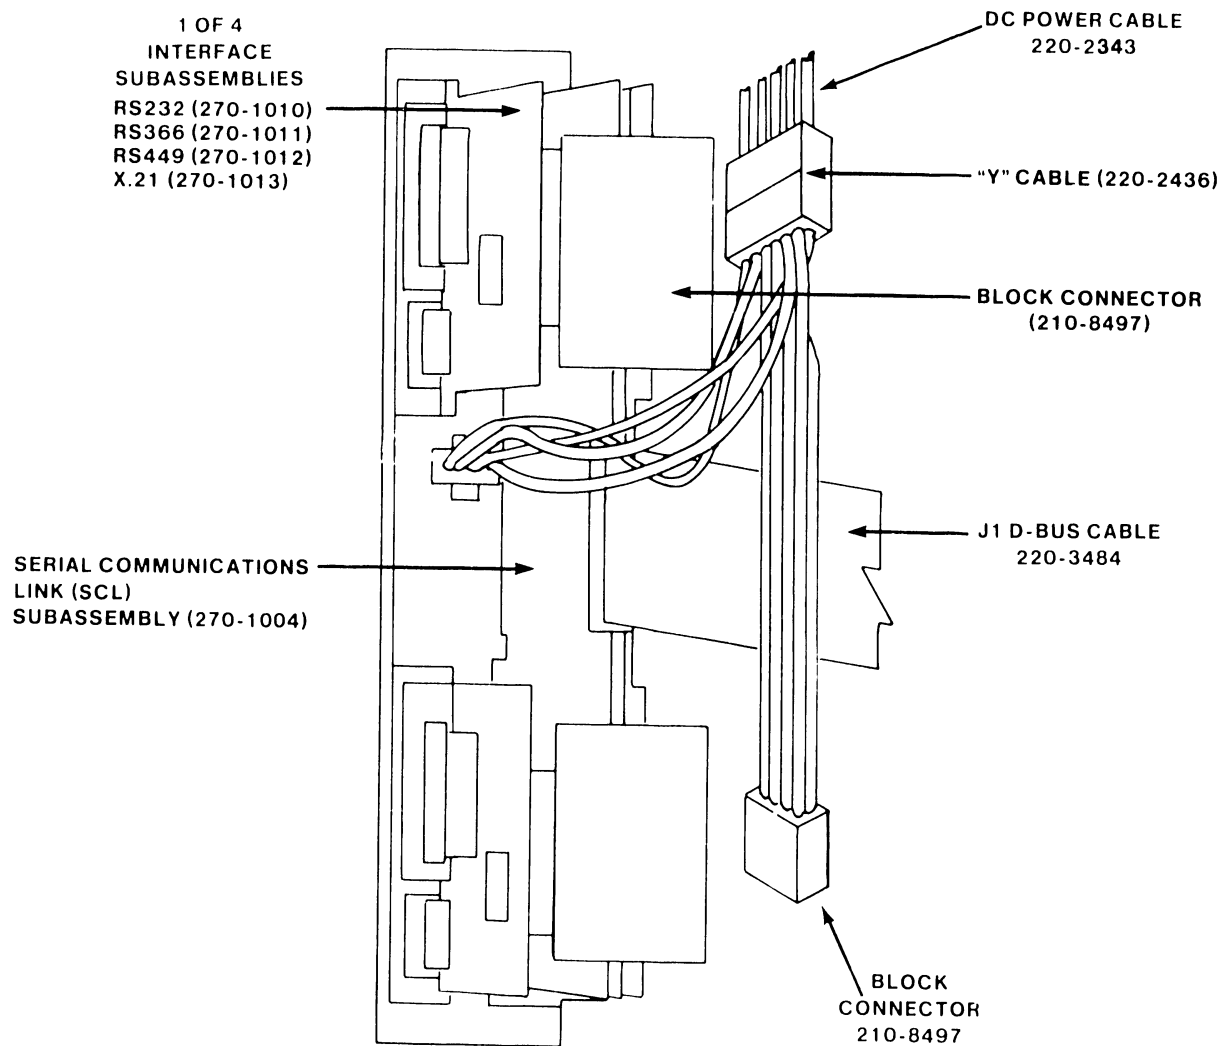

Figure 7-31. Multiline TC Back Panel Assembly
2. Figure 7-31 shows the Multiline TC back panel assembly, with cabling.